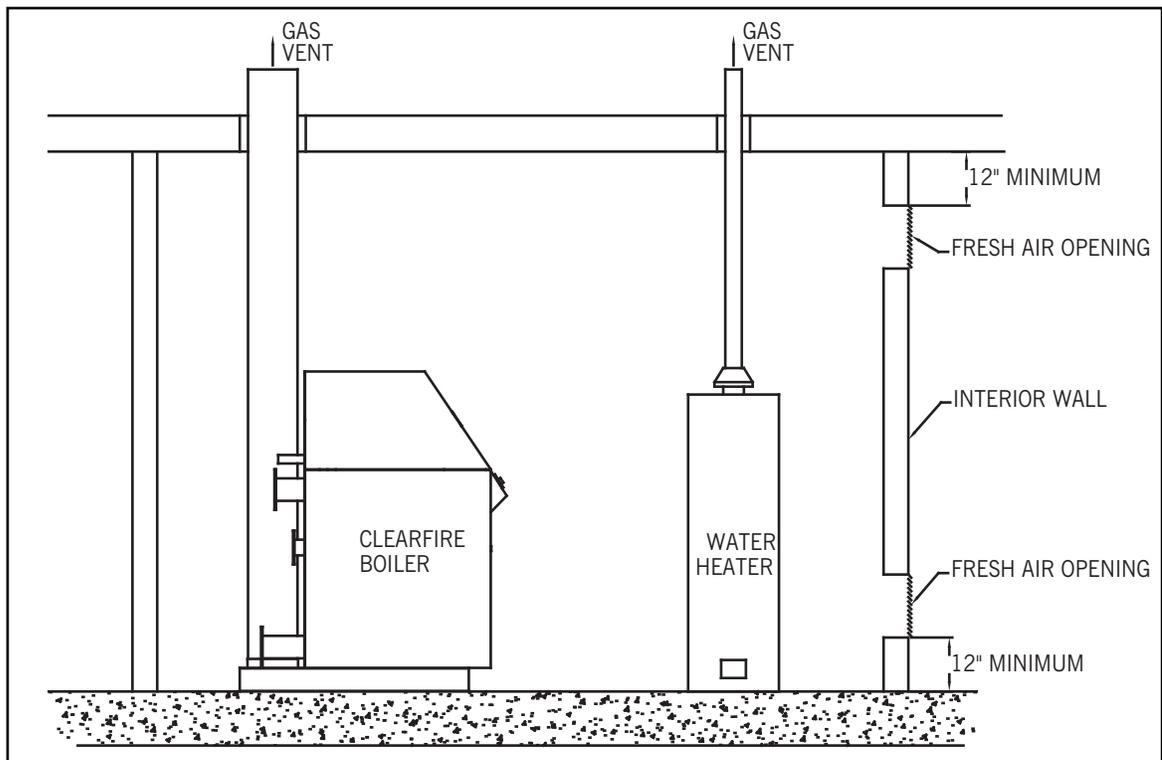
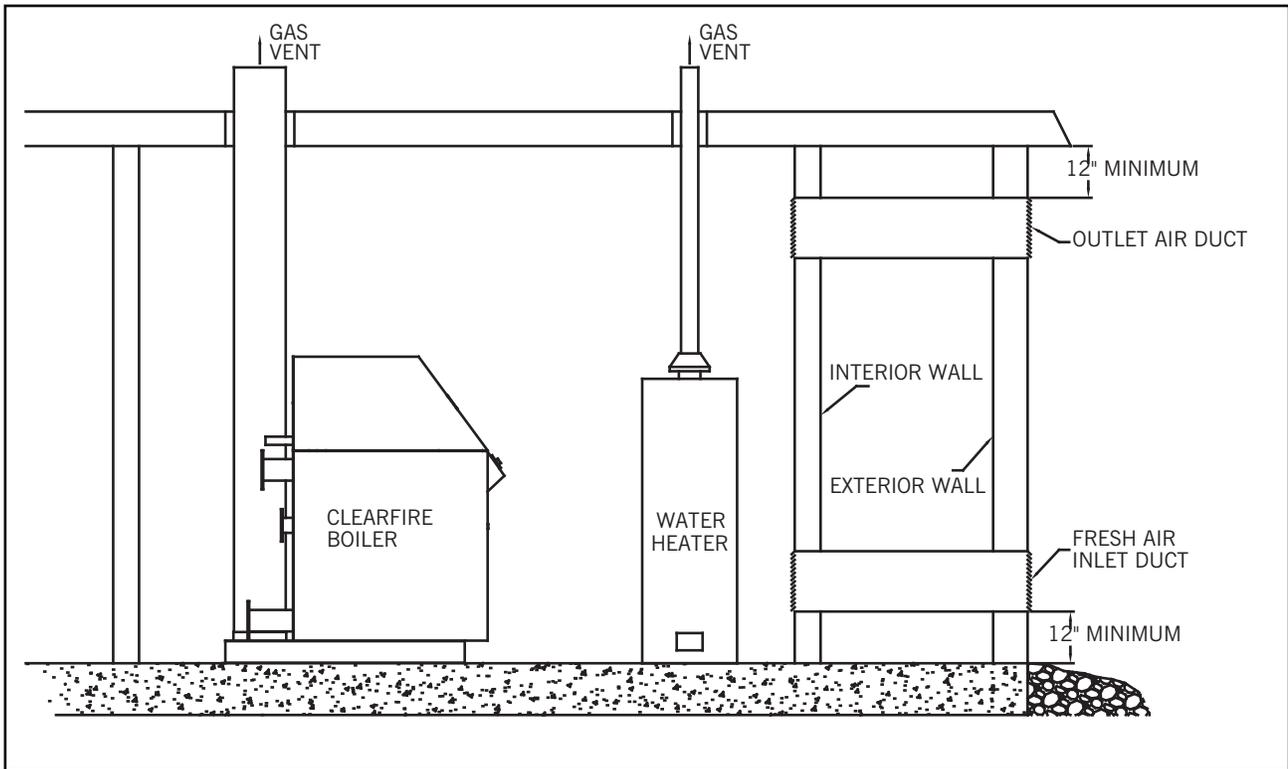

Figure 3-5 Two Opening Outside Wall Method
Figure 3-6. Two Opening Ducted Method
2. The openings must be linked directly (**Figure 3-5**) or by ducts (**Figure 3-6**) with the outdoors.